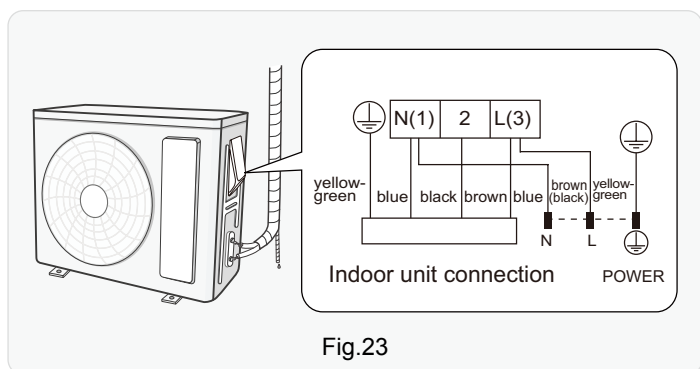

Fig.23
(1) Remove the wire clip; connect the power connection wire and signal control wire (only for cooling and heating unit) to the wiring terminal according to the color; fix them with screws. (As show in Fig.23)